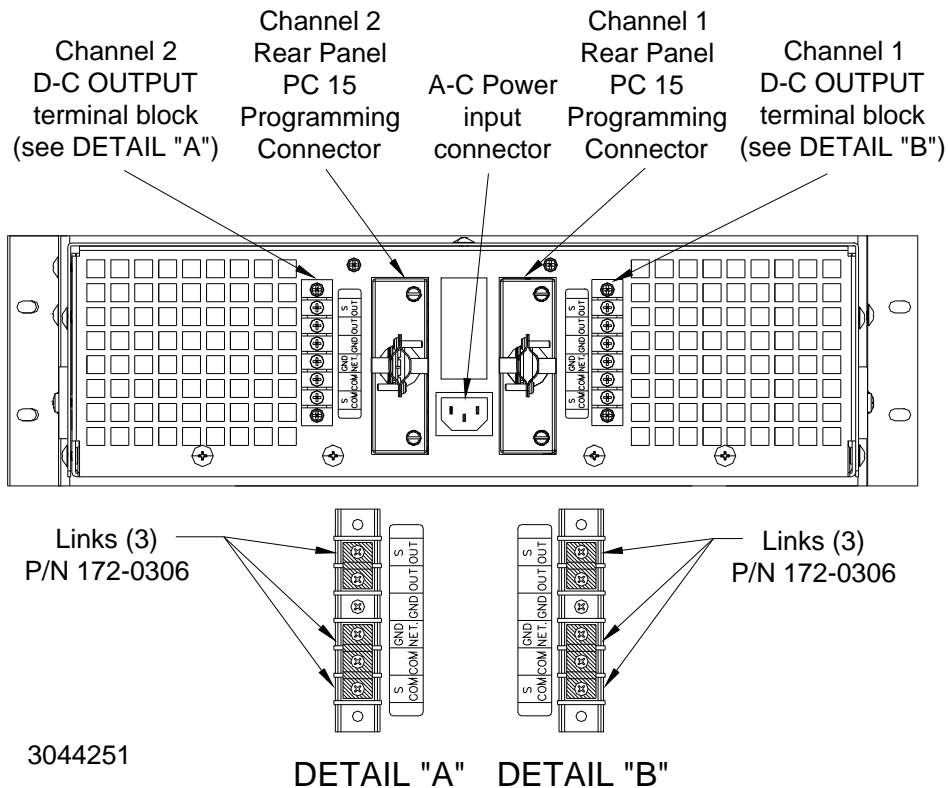

FIGURE 5. BOP 2X SERIES REAR PANEL TERMINATIONS
REAR PROGRAMMING CONNECTOR, PC 15. Control of each channel is via the associated rear panel programming connector. (See Figure 5). Table 1 lists the functions of each terminal. For more details, refer to the BOP 2X20-10D Operator Manual (see PAR. 1.1).
2. Install the PC 15 programming connector at the rear panel (see Figure 5).